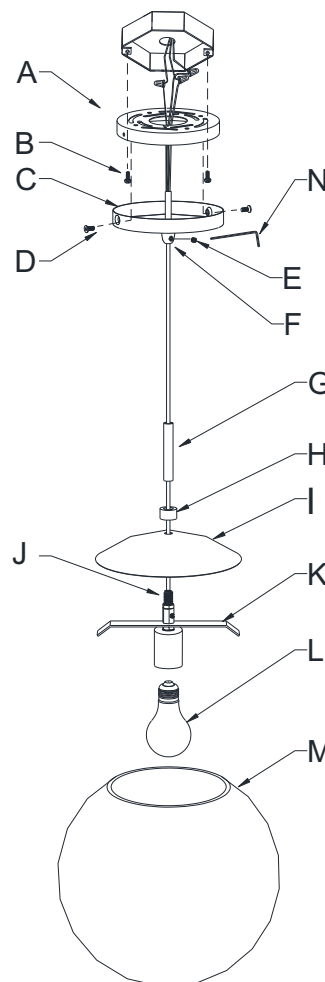

Fig. 2
CONNECTING THE WIRES (Fig. 2)
11. Connect the electrical wires as shown in Fig. 2, making sure that all wire connectors are secured. If your junction box has a ground wire (green or bare copper), connect fixture's ground wire to it. Otherwise, connect fixture's ground wire directly to mounting plate (A) using green screw provided.